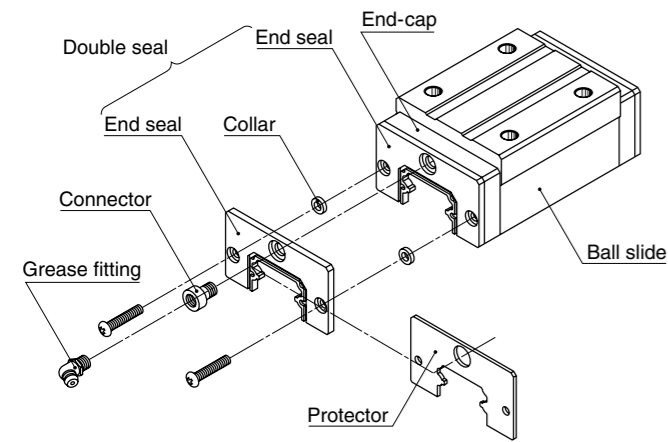

Fig. 3
- When attaching a grease fitting to the end-cap after the double seal or protector is equipped, a connector, shown in Fig. 3, is required. Please specify the connector set when ordering.